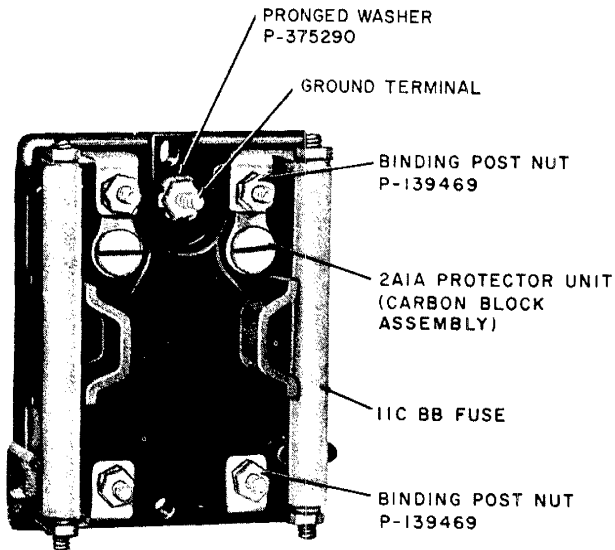

Fig. 6—106C Protector
2.12 The 106C Protector consists of a base of insulating material containing five binding posts, two 11CBB Fuses, and two 2A1A Protector Units (Fig 6).